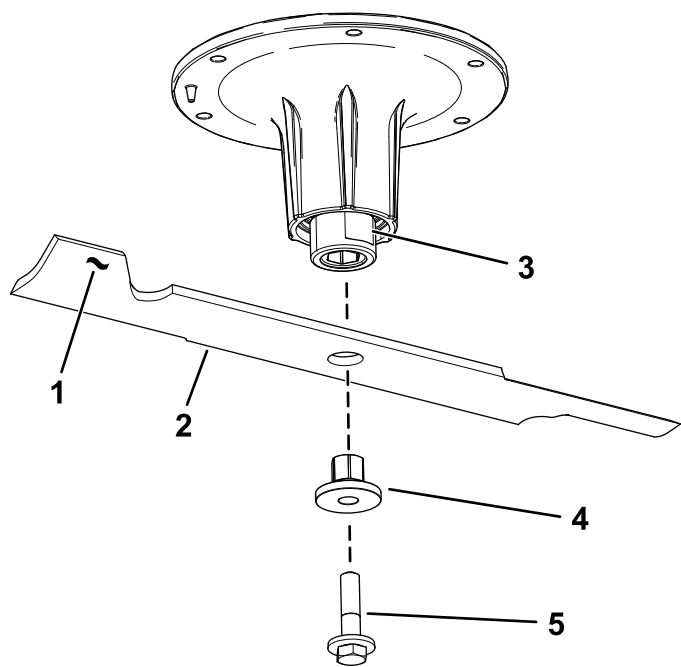

Figure 77
2. Remove the blade bolt, bushing, and blade from the spindle shaft (Figure 77).